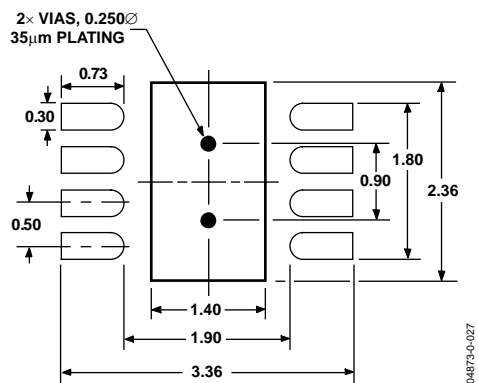

Figure 27. 3 mm x 3 mm LFCSP Pad Pattern
- The pad pattern is shown in Figure 27. Follow the pad dimension closely for reliable solder joints while maintaining reasonable clearances to prevent solder bridging.